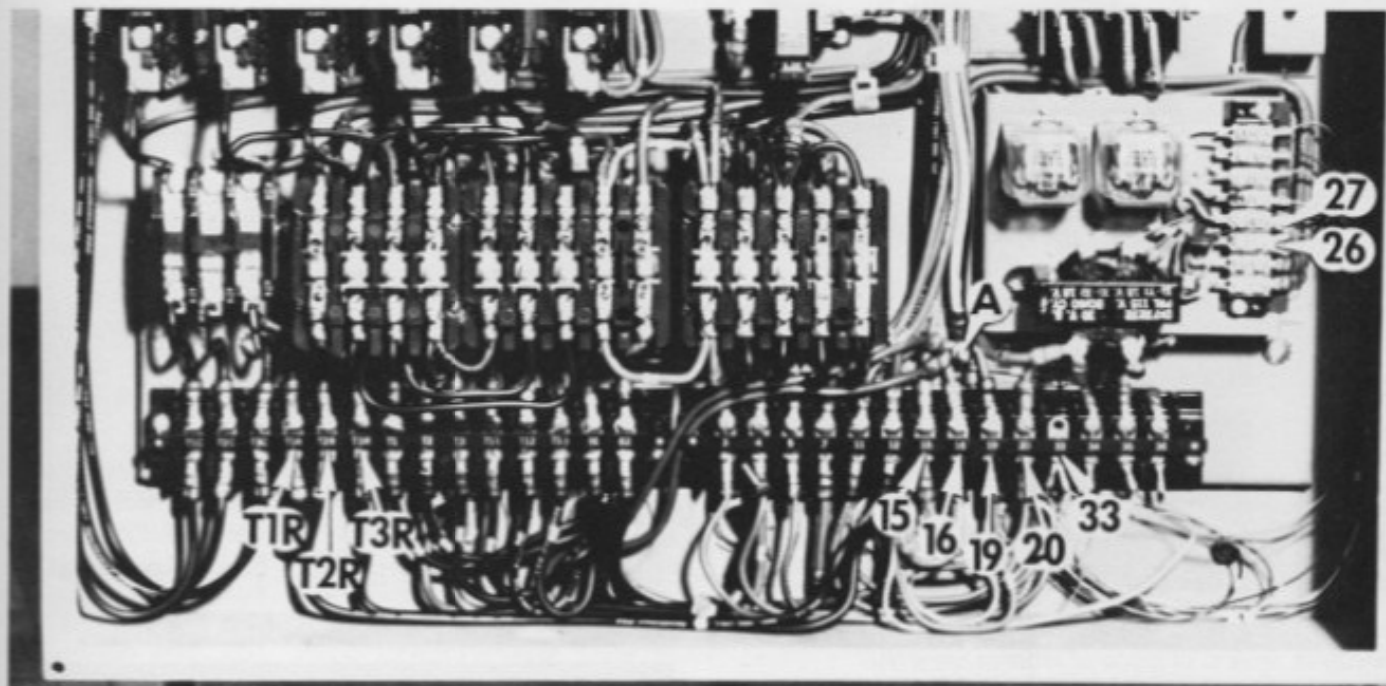

Figure 14 — Main Switch Case
3. In main switch case remove wires T1R, T2R, T3R, 15, 16, 19 and 20 at lower side of terminal blocks, Figure 14.
3. Replace wires in switch case, Figure 14.
4. To check drive rotation, set speed selectors at 125 and 3000. Place forward-reverse lever in "Brake" position. Push start button and pull spindle lock pin. Place speed range lever in range 3. **USING CAUTION**, jog forward-reverse lever. Vertical screw should rotate clockwise as viewed from top. (When speed range lever is moved to range 2, vertical screw should rotate counterclockwise when viewed from top). If vertical screw does not rotate as described, disconnect power source and interchange any two wires (T1R, T2R, T3R) on terminal block in switch case, Figure 14.